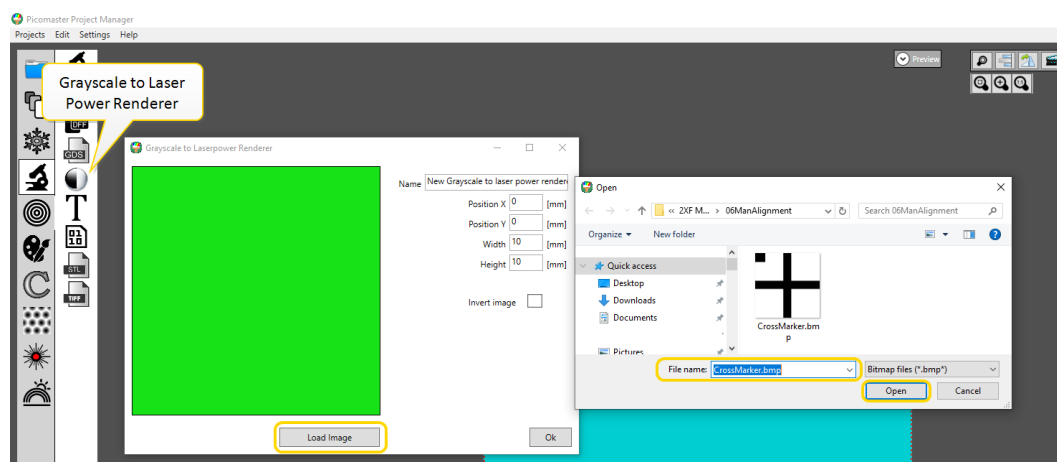

Figure 3-99 Selecting the marker
5. Select the Grayscale to Laser Power Renderer, see **Figure 3-99 below**.